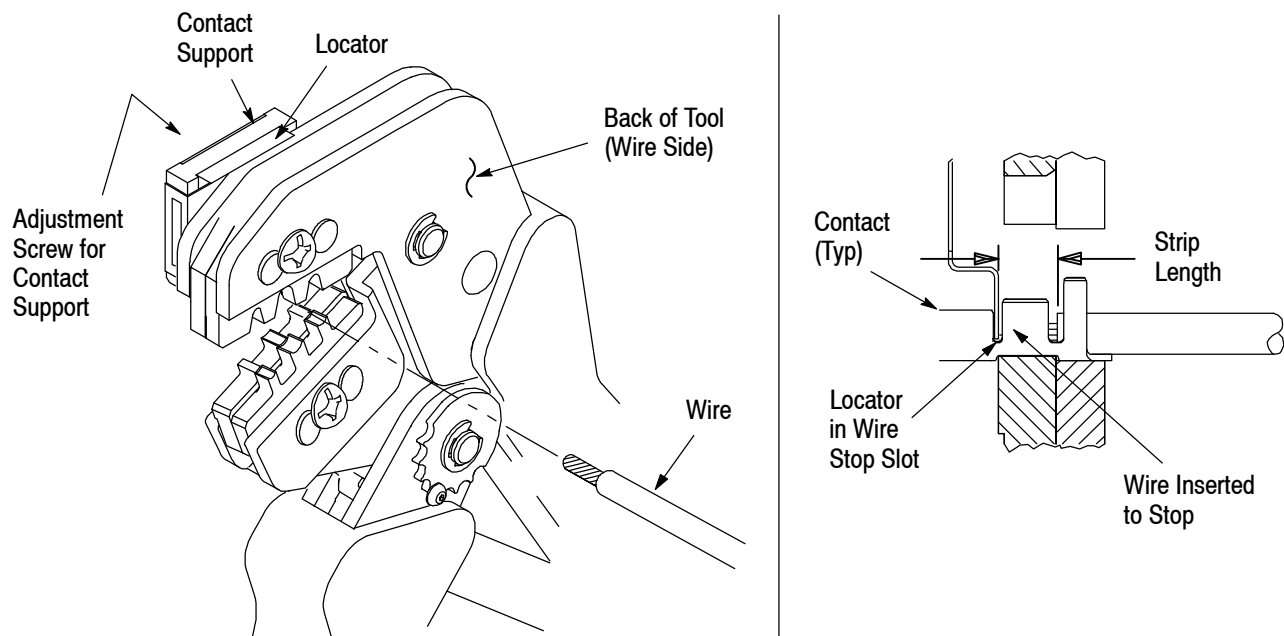

Figure 3
4. CONTACT SUPPORT ADJUSTMENT (Figure 3)**NOTE**
Refer to the table in Figure 1 and select wire of the specified size and insulation diameter. Strip the wire to the length indicated in Figure 1, taking care not to nick or cut wire strands. Select an applicable contact and identify the appropriate crimp section according to the wire size markings on the tool. Refer to Figure 3 and proceed as follows:
3. Position the contact so that the mating end of the contact is on the locator side of the tool, and so that the open “U” of the wire and insulation barrels must face the top of the tool. Place the contact up into the nest so that the movable locator drops into the slot in the contact. Refer to Figure 3. Butt the front end of the wire barrel against the movable locator.
5. Insert stripped wire into contact insulation and wire barrels until it is butted against the wire stop, as shown in Figure 3.
The crimped contact may stick in the crimping area, but the contact can be easily removed by pushing downward on the top of the locator (see Figure 3).